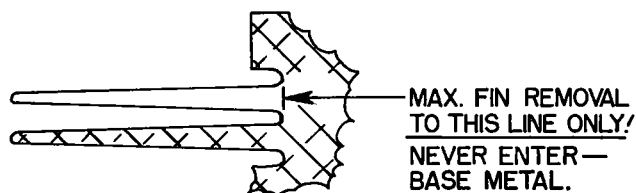

Figure 5-4. Maximum Fin Removal
bb. Maximum removal in accordance with figure 5-4.
- a. Side clearance between piston ring and piston (514, 515 and 516). Pistons for Lycoming opposed engines are ground with a slight taper from the skirt to the head, with the exception of the lands between the top compression and oil control rings, which are ground parallel. The clearance on wedge type compression rings therefore must be measured as shown in figure 5-4 in order to obtain a true check of the side clearance.
- b. Inside diameter of piston pin hole (512).
- c. Clearance between piston skirt and cylinder and piston diameter at top and bottom (519).